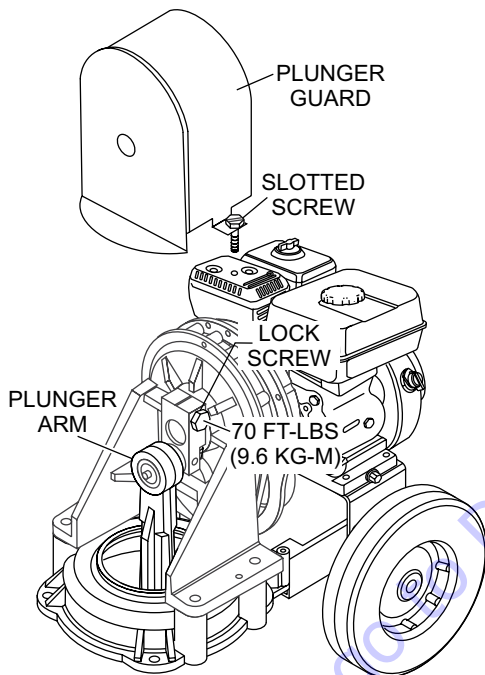

Figure 24. Lock Screw Torquing
1. Remove plunger guard (Figure 24) by removing slotted screw (2).
3. Using a torque wrench, torque lock screw (Figure 24) to 70 ft.-lbs. (9.6 kg-m).